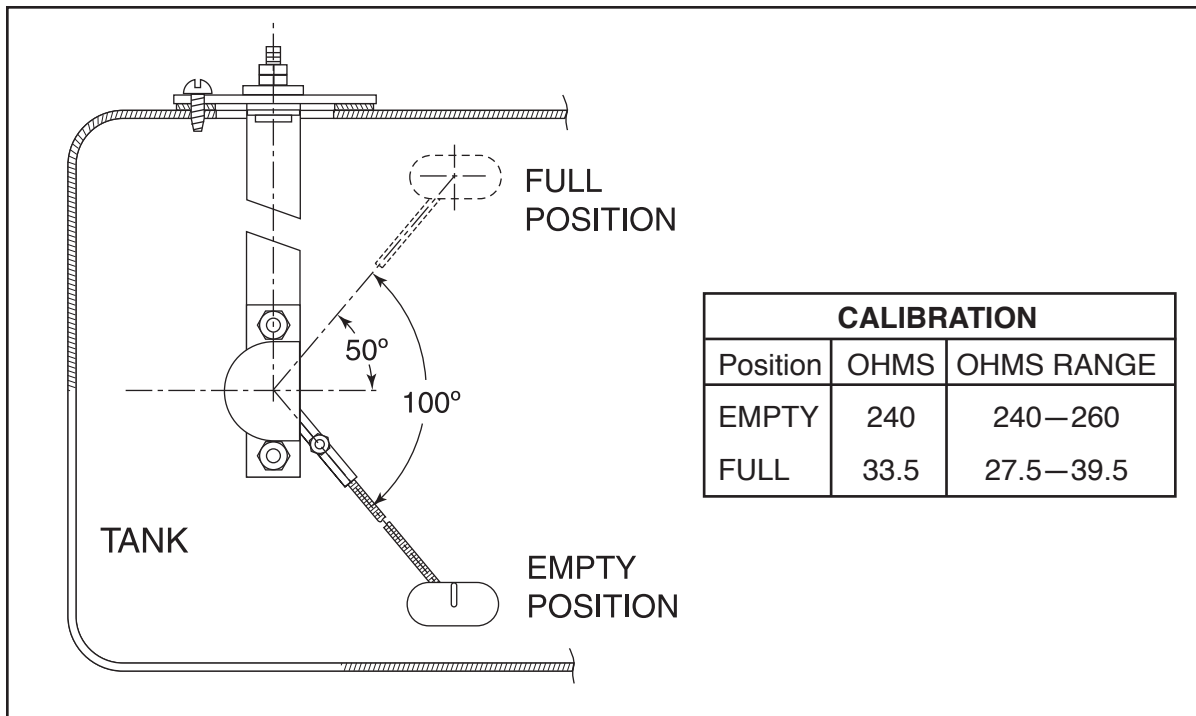

Figure 1. Fuel Level Sender Calibration
- If alarm quits: (see figure 1 for resistance values)